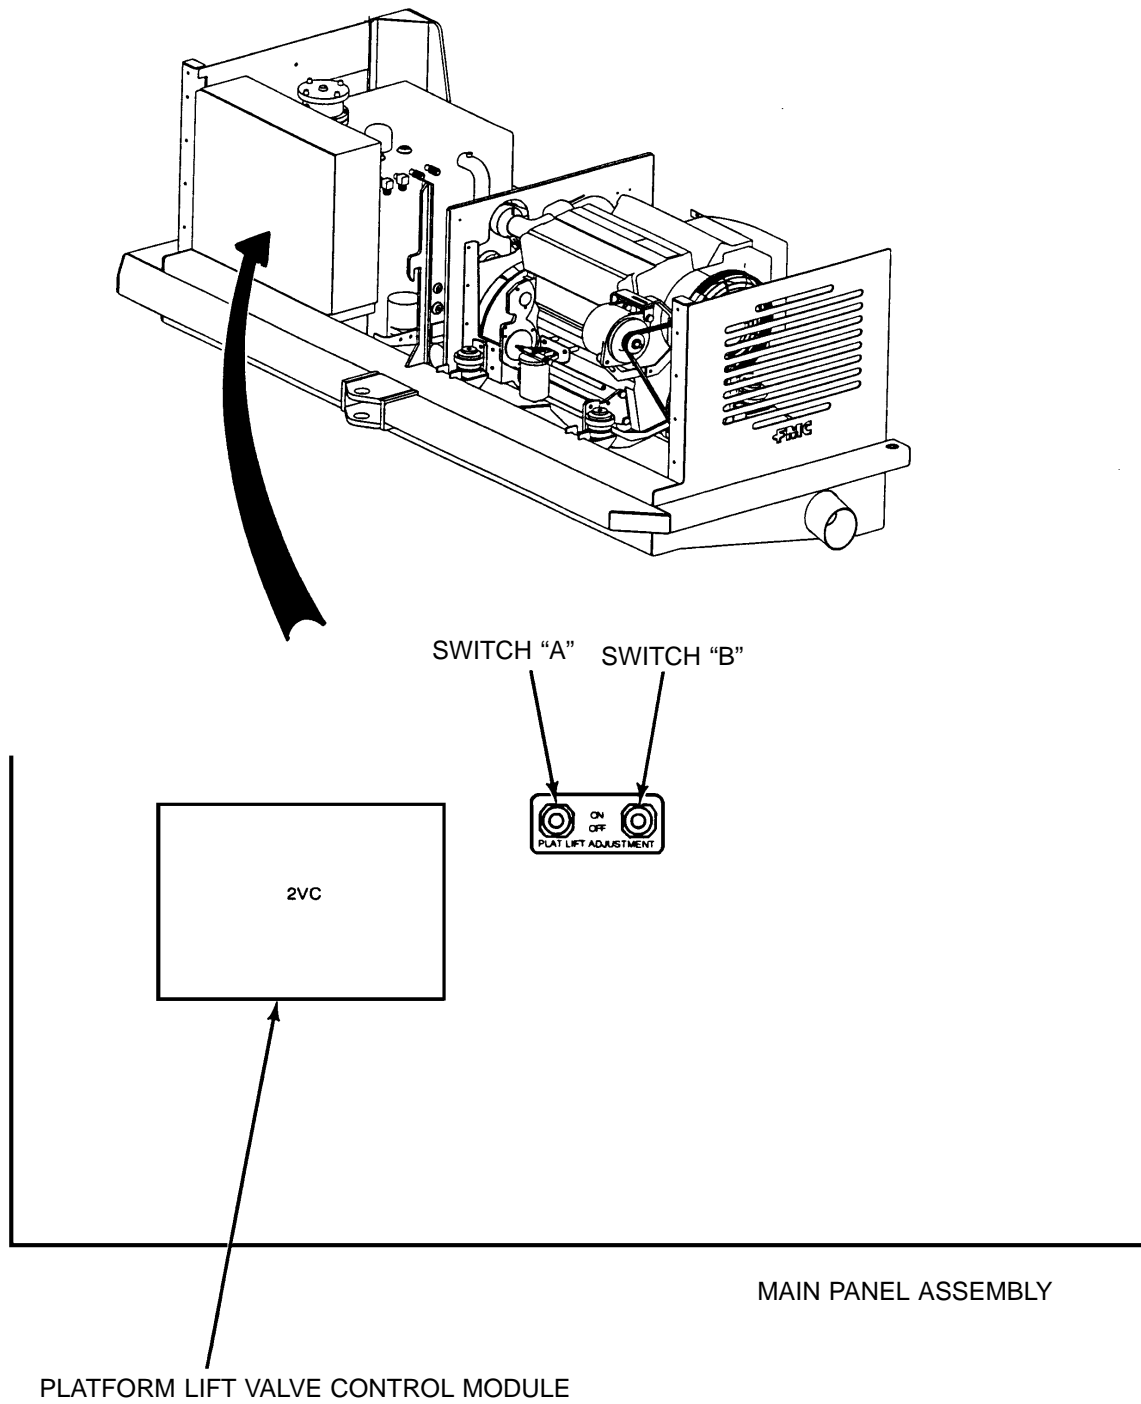

Figure 38
- (6) Whenever an adjustment is made to "HI-A" trimpot in RABBIT speed, it is mandatory that SNAIL speed be rechecked. When an adjustment is made to "HI-B" trimpot, RABBIT speed must be rechecked. The adjusting of one trimpot has an effect on the other trimpot; therefore, it may be necessary to readjust each trimpot a number of times until both trimpots are correctly adjusted to obtain the specified propel speeds in RABBIT and SNAIL.
- (7) Shut power unit down, close main panel door and secure with retention bolts.
- Q. Platform Lift Adjustment (Figure 38)